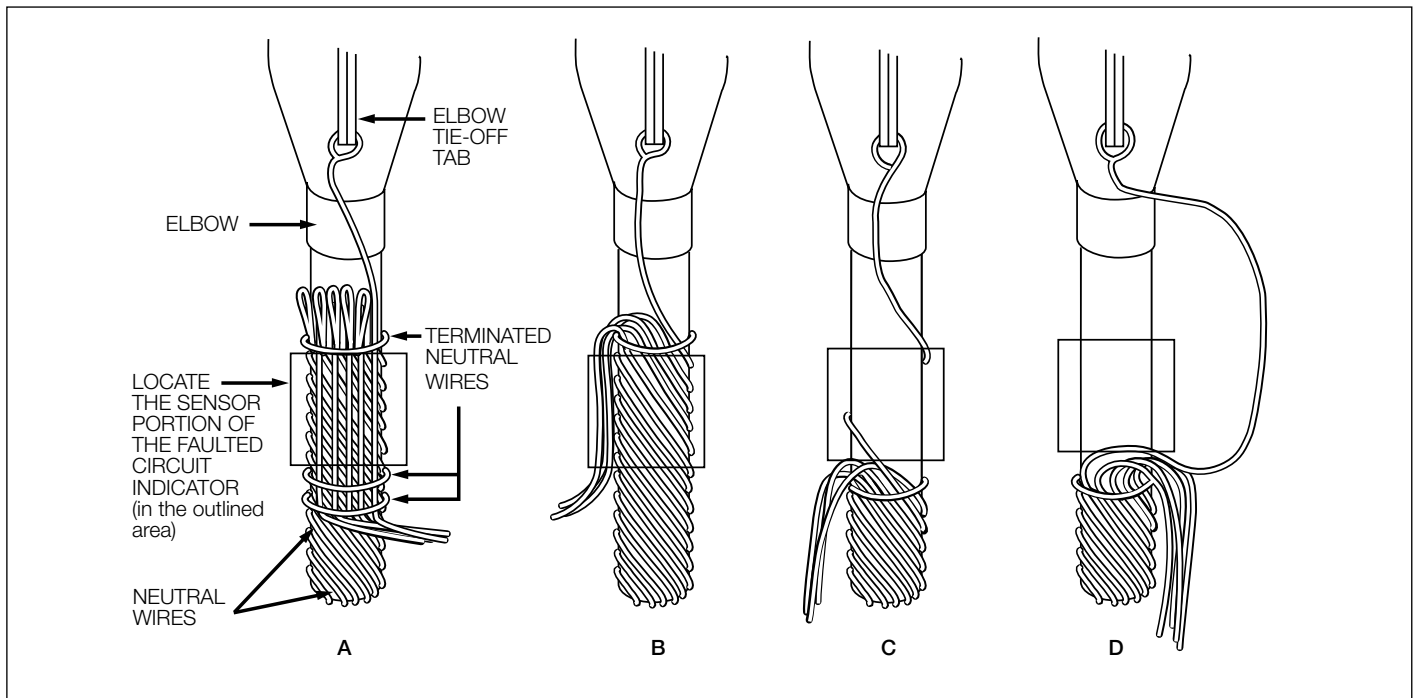
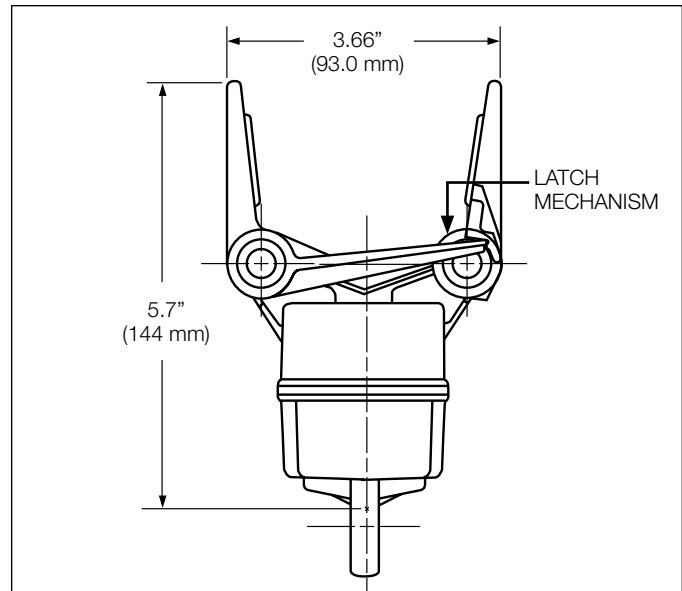
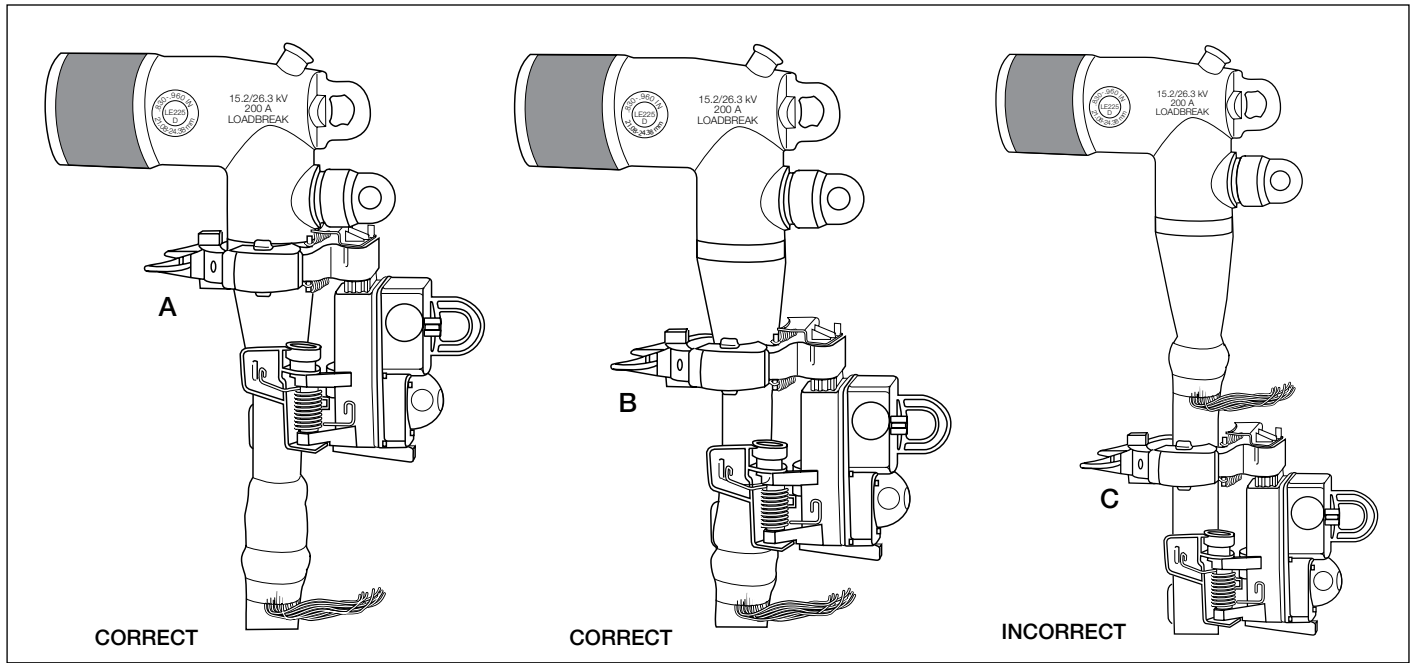

Figure 2. Recommended methods of concentric neutral primary cable preparation.
Figure 4.
Figure 5.
Method 1 (Refer to Figure 2-a)
Method 2 (Refer to Figure 2-b)
Method 3 (Refer to Figure 2-c)
Method 4 (Refer to Figure 2-d)
1. Arm the FCI clamping mechanism by carefully grasping both clamping arms, pulling them apart until the trigger mechanism drops into place. Stops have been built into the clamping arms such that they can only be opened to the point where the trigger will latch (See Figure 4).
- 4a. Push the fault indicator onto the cable below the elbow at a location shown in Figure 2 while holding the shotgun stick horizontal. The triggering mechanism will release the clamping arms and securely attach the device to the cable. Note that only the closed core CT need be applied over the region of the cable where the concentric neutral has been removed or double-backed (see Figure 4).
- 4b. For installation on tape shield cable, the closed-core CT of the FCI should be placed above the location on the cable where the tape shield has been removed or trained back as part of the cable termination. Location of the FCI must be similar to Figure 2 (C or D), or Figure 5 (A or B), for proper operation of the FCI.
2. For applications where the cable diameter is less than 1", leave the clamp pads attached to the clamp arms. On installations where the cable diameter exceeds 1", remove the pads that are attached to each clamping arm. Removing the pads will allow the clamping mechanism to properly attach to larger diameter cables (See Figure 5).
3. Apply a thin layer of silicon lubricant to the inside of the closer core current transformer (CT).